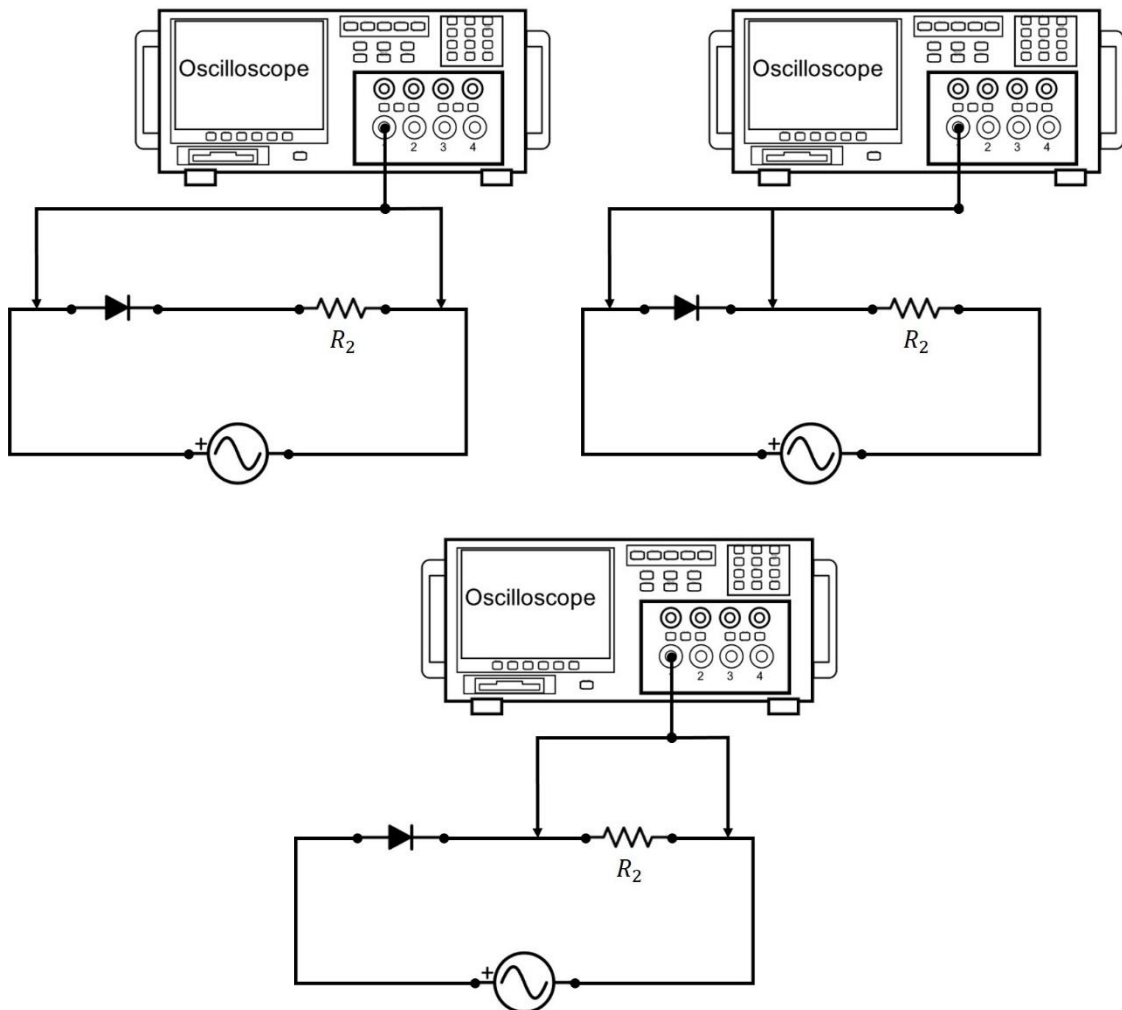

**Figure 2.3:** AC voltage measurements
- 2) Connect the AC power supply and the circuit in the protoboard to create an AC circuit as seen in Figure 2.3. Connect the oscilloscope probes across  $R_1$ ,  $R_2$  and  $R_1$ - $R_2$  and sketch the signal shapes seen in the oscilloscope for each case.
- 3) From the signal, measure  $V_{pp}$ ,  $V_0 = V_{pp}/2$ ,  $V_{rms} = V_0/\sqrt{2}$ , period (T) and frequencies (f).